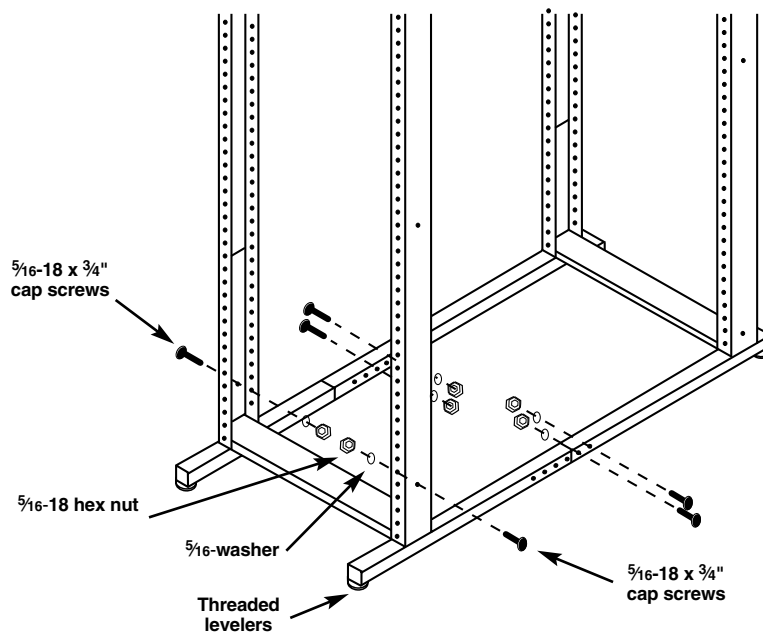

Figure 3-4. Securing the legs.
3. Tighten the screws and hex nuts (omit the leg end caps). See Figure 3-4.